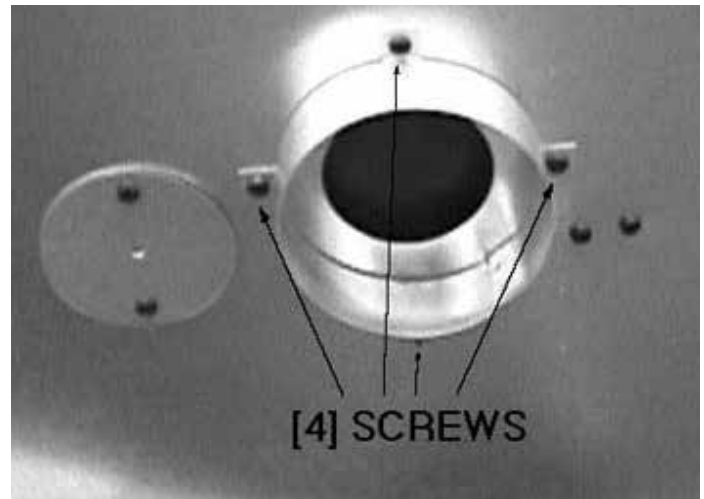

Figure 8.6
1. Attach the collar to the side of the fireplace by aligning the four holes in the collar with the four holes on the fireplace side. Attach with the screws provided. See Figure 8.6.